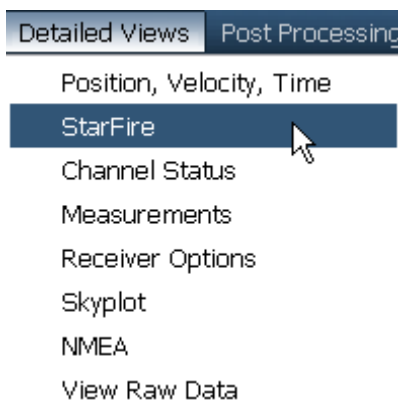

Figure 111: Detailed Views Menu – StarFire
- Click *StarFire* on the *Detailed Views* menu to open the *StarFire* tab (see Figure 111).